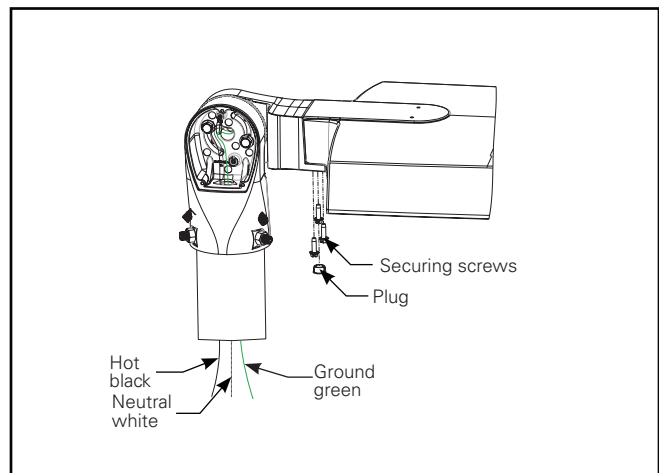

Figure 8.
- Fasten the luminaire to the mounting arm as follows: (Figure 8.)